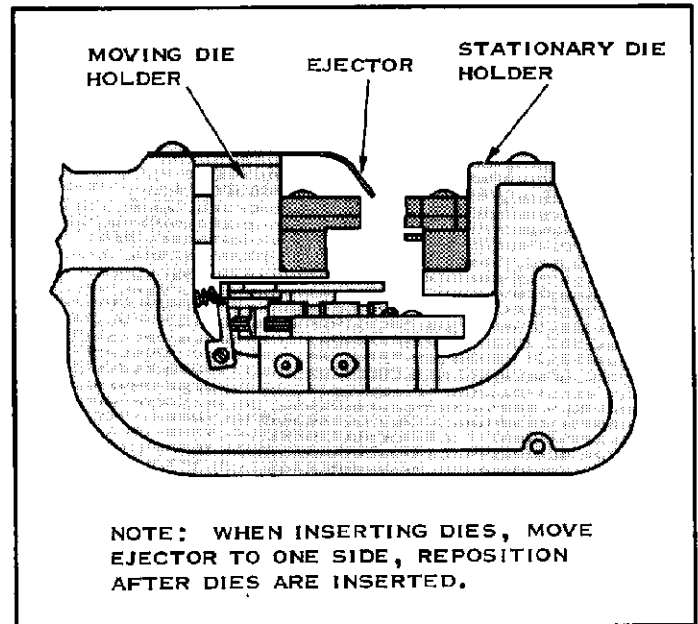

FIGURE 2
1. Place the Stationary Die in the Stationary Die Holder, and tighten the holding screw finger tight. Figure 2.